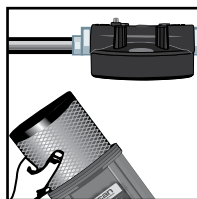

FIGURE 5C
4. Discard the used cartridge and clean the sump housing as required (Figure 5C). Make sure to thoroughly rinse the sump with water to remove any cleaning agents. Before installing a new cartridge, please ensure that the o-ring seal is properly seated on the shoulder at the top of the sump (Figure 5D), if there is any visible damage on the o-ring please replace it (PN OR-5).